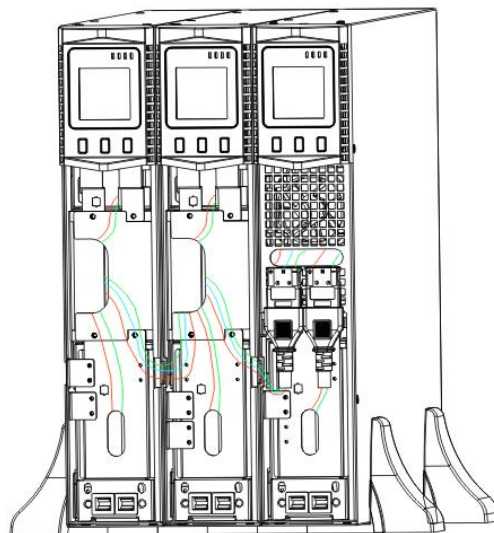

FIG.15 The installation for UPS and battery box
1.Install the base and place the RT UPS on the base one by one as Fig.15 shows.